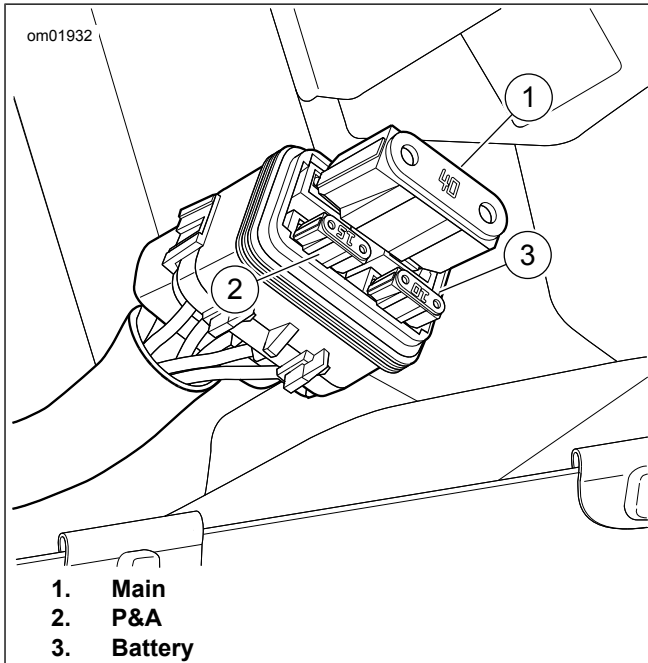

Figure 67. Fuses
5. See Figure 67. Remove the suspect fuse.
- a. Main fuse (1)
- b. P&A (2)
- c. Battery (3)